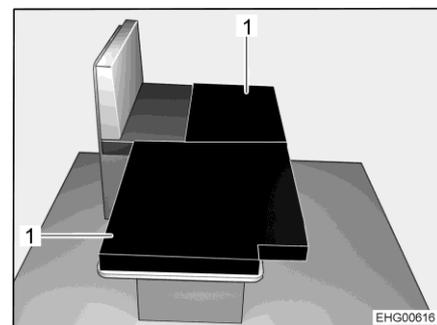

Fig. 77 After conversion
- Place the two additional cushions (Fig. 77,1) on the lowered table as shown in the image.